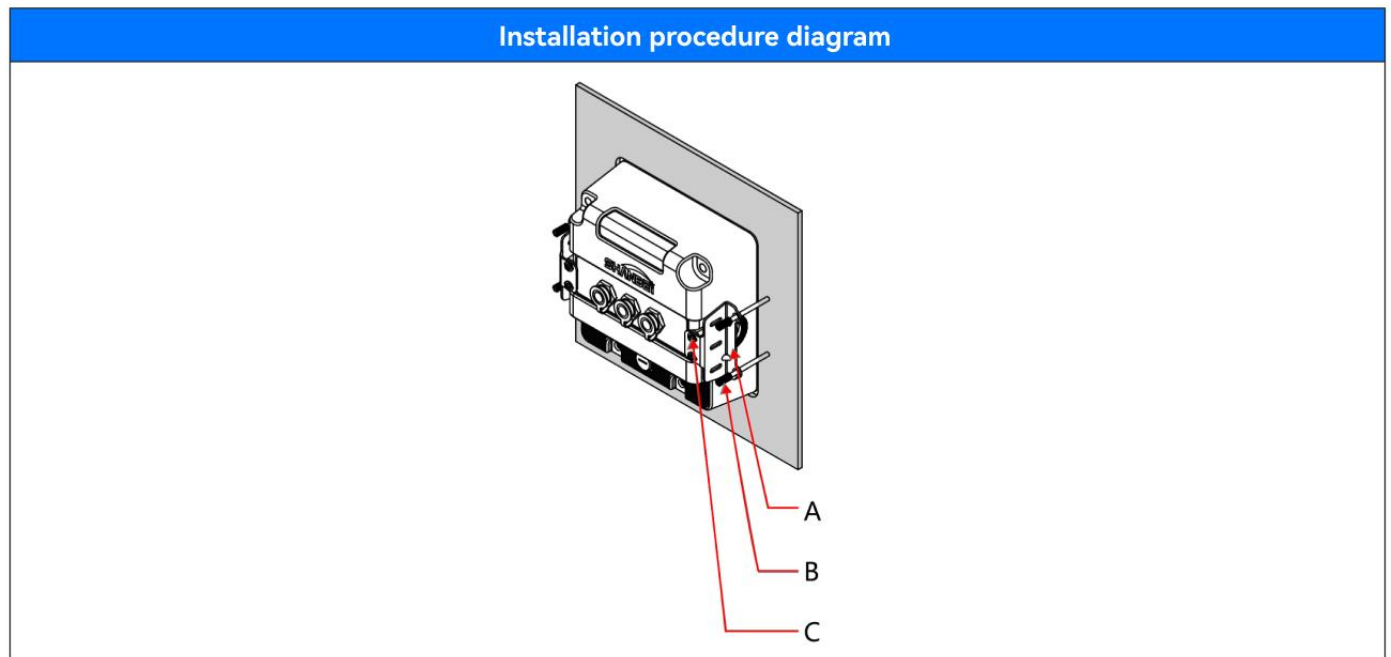

Figure 3.1
1. As shown in Figure 3.1, install the fixing frame A on the back of the compass repeater by screw C.